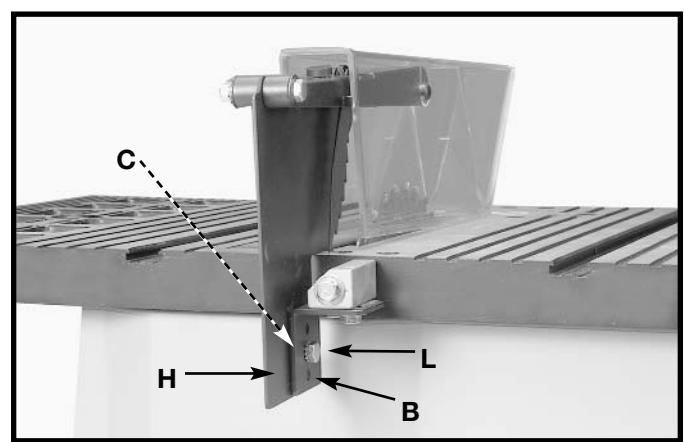
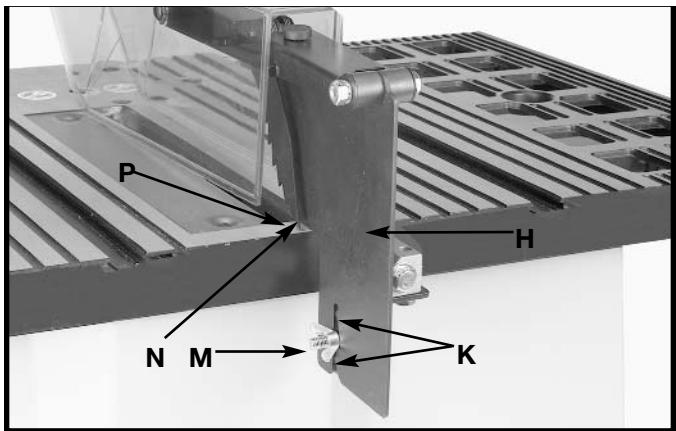

Fig. 22
Fig. 23
- Attach the splitter (H) Fig. 22 to the splitter support bracket (B). Place a 1/4 inch external tooth lockwasher and an M6.4 flat washer on an M6x1x20mm hex head screw (L).
- Insert the screw (L) Fig. 22 through the splitter support bracket (C) and the splitter (H). Place an M6.4 flat washer and a 1/4 inch external tooth lock washer on the screw (L). Thread an M6x1 wing nut (M) Fig. 23 on the screw (L) Fig. 23.
**NOTE:** Before tightening the wing nut (M) Fig. 23, make certain a gap of at least 1/8 inch is between the bottom edge of the splitter (N) and the top surface of the table (P) and that the protrusions (K) are inside the slot of the splitter assembly (H).